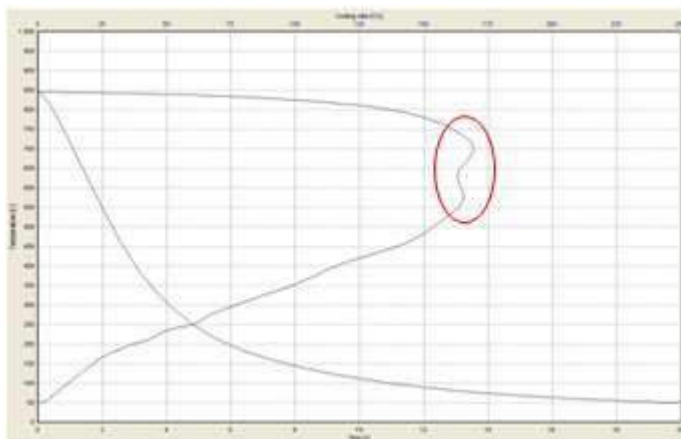

Fig 4.2 Picture showing double noses
2. Some fast polymers have a tendency of a double nose appearance for the CRmax, see fig 4.2. If the preprogrammed parameter TCRmax is used as an evaluation criteria it is important to also study the appearance of the CR-curve if the TCRmax is deviating from normal values.